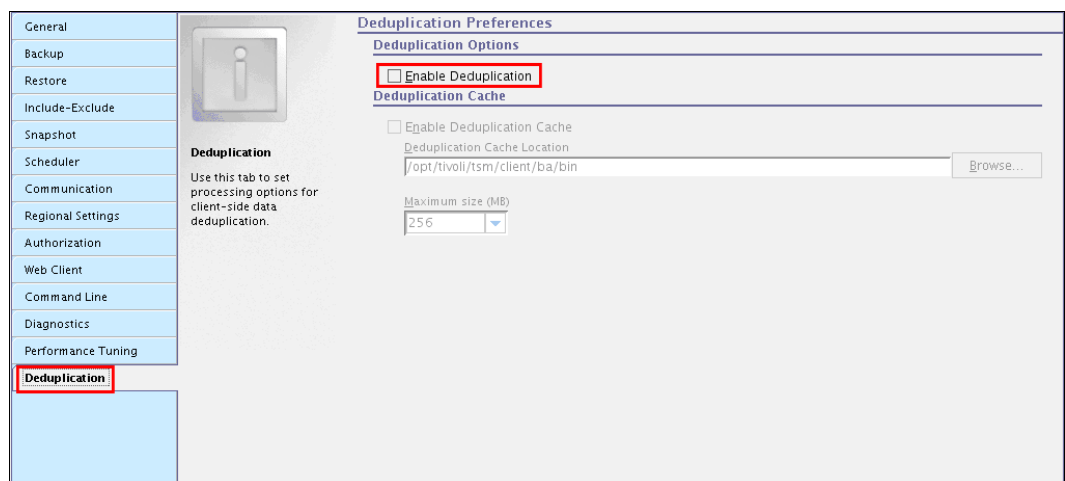

Figure 20-21 Deduplication Preferences window
2. In the menu at the left, select **Deduplication** (Figure 20-21). The Deduplication Preferences page opens.